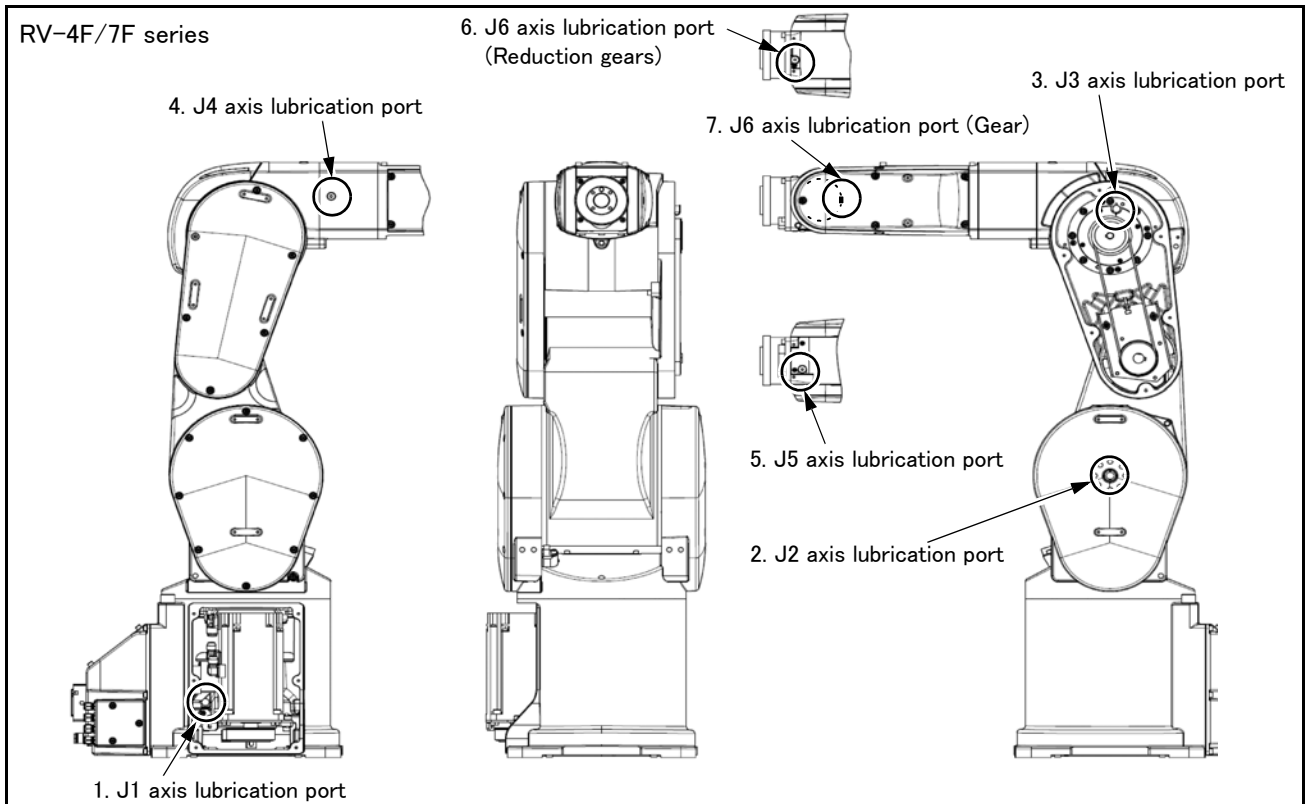
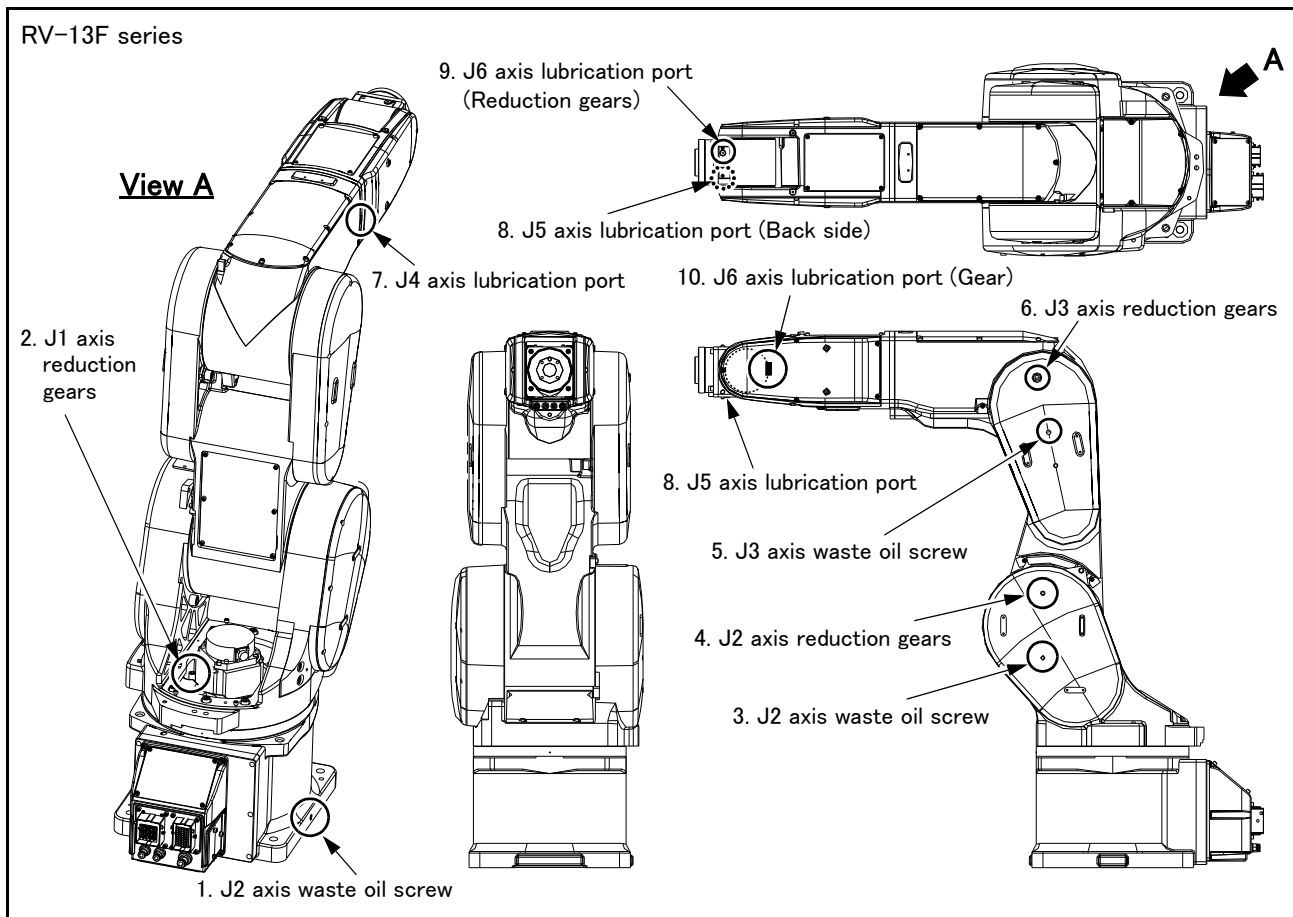

Fig.5-15 : Lubrication positions (RV-4F/7F series)
Fig.5-16 : Lubrication positions (RV-13F series)
The grease nipple position is shown in Fig. 5-15 (RV-4F/7F series) or Fig. 5-16 (RV-13F series). The lubrication specifications for each place are shown in Table 5-4. Refer to the Page 76, "5.3.2 Installing/removing the cover" for the method of removing and installing the cover.
- The numbers in the Table 5-4 correspond to the supply positions in Fig. 5-15 (RV-4F/7F series) or Fig. 5-16 (RV-13F series).
(2) Lubrication method
- 1) Set the robot to the posture shown in Fig. 5-15 (RV-4F/7F series) or Fig. 5-16 (RV-13F series).